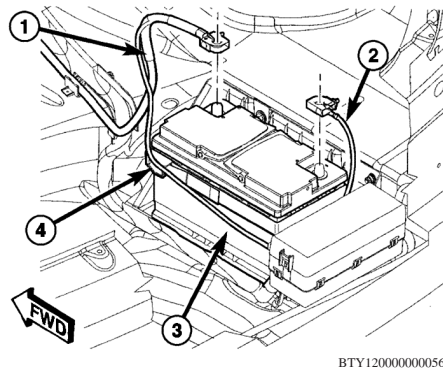

Fig. 1 Battery cable removal
3. Disconnect battery ground cable (2) from battery terminal, **Fig. 1**.
4. Disconnect battery positive cable (1) from battery terminal, **Fig. 1**.
5. Unlatch battery retention strap (4), **Fig. 1**.
4. Latch battery retention strap (4), **Fig. 1**.
5. Connect battery positive cable (1), **Fig. 1**.
6. Connect battery ground cable (2), **Fig. 1**.